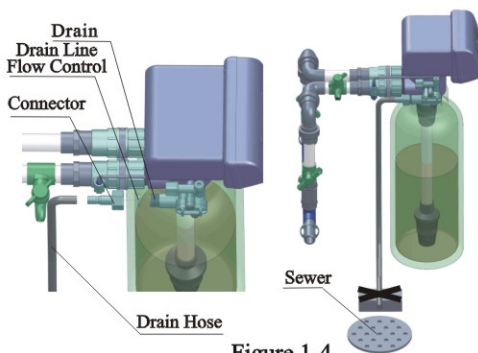

Figure 1-4
⑤ Install drain pipeline
a. As the Figure 1-4 shows, slide the drain hose connector into drain outlet.
d. Locate the drain hose well as the Figure1-4 show.
● Be sure not connect drain with sewer, and leave a certain space between them, avoid wastewater be absorbing to the water treatment equipment, such as showed in the Figure1-4.